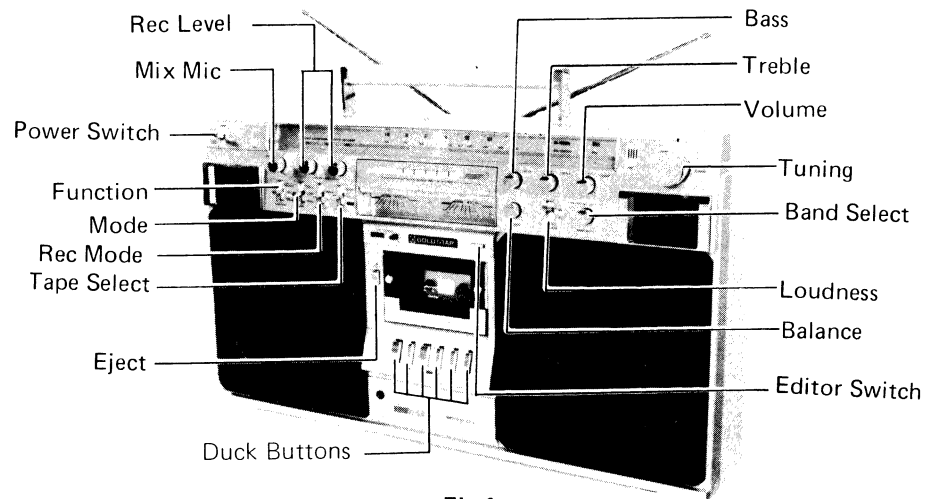
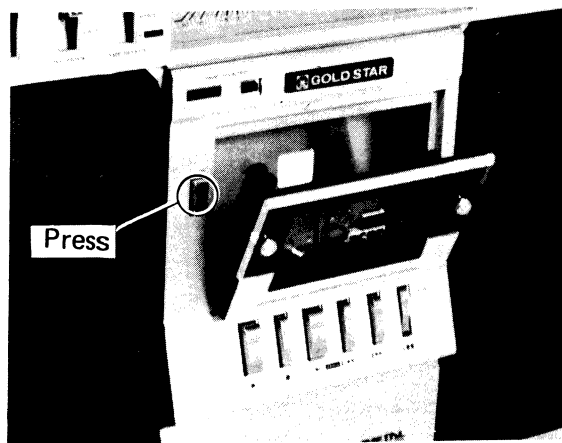

Fig.1
Fig.2
- (1) Please pull out the round volume knobs such as tuning, Bass, treble etc.(see Fig.1) and open the cassette door with pressing the eject button.(see Fig.2)